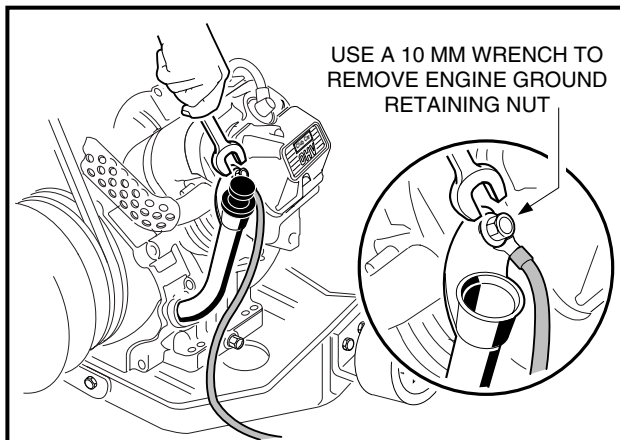

FIGURE 10-15
- 2.6. Using a 10 mm wrench, detach the ground cable from the oil filler tube mounting bracket on the engine cylinder head (**Figure 10-15**).